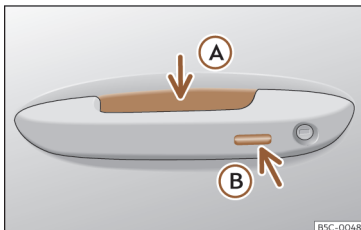

Fig. 83 Door handle: sensor surfaces
>>> Fig. 83
»» **Fig. 83 A** (arrow) of the handle and the vehicle unlocks.
»» **Fig. 83 B** (arrow) on one of the front door handles. The door that is used must be closed.
- Touch (*once*) the sensor surface»» **Fig. 83 B** (arrow) on one of the front door handles. The vehicle locks with the “Safe” security system»» page 104 . The door that is used must be closed.
- Touch (*twice*) the sensor surface»» **Fig. 83 B** (arrow) of one of the front door handles to lock the vehicle without activating the “Safelock” security system»» page 104 .
- Push the central locking button  on the remote control and touch the locking sensor surface of the driver door handle >>> **Fig. 83 B** within the following 5 seconds. Do not grasp the door handle; otherwise the vehicle will not unlock. Deactivation is also possible if the vehicle is locked through the driver's door lock.
To close all the electric windows and the sunroof using the **comfort function**, keep a finger for a few seconds on the locking sensor surface >>> **Fig. 83 B** (arrow) of the door handle until the windows and roof have closed.
The sensor surfaces on the door handles could engage if hit with a water jet or high pressure steam if there is a valid vehicle key in the proximity. If at least one of the electric windows is open and the sensor surface >>> **Fig. 83 B** (arrow) on one of the handles is activated continuously, all windows will close.
- **OR:** touch the sensor surface on the outside of the door handle *twice*>>> **Fig. 83**